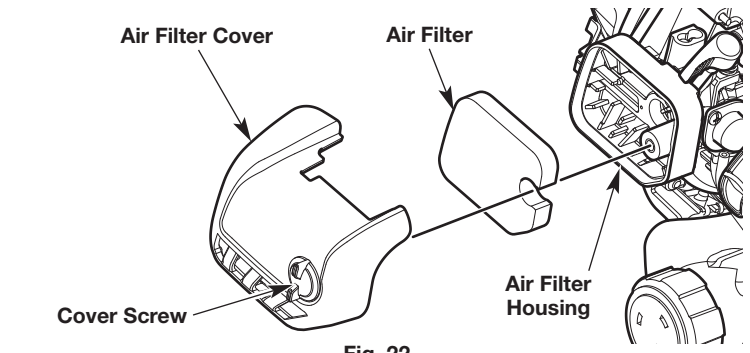

Fig. 22
1. Open the air filter cover by unscrewing the cover screw (Fig. 22).
2. Remove the air filter from the air filter housing (Fig. 22).
6. Reinstall the air filter in the air filter housing (Fig. 22).